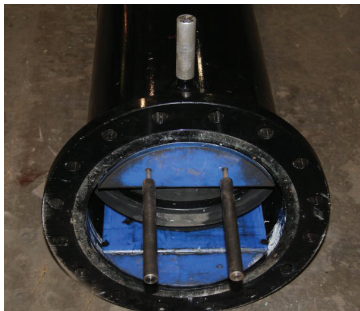

Figure G-10
**G.19)** Visually check to ensure proper valve cartridge orientation — the gate is to be perpendicular to the alignment port before continuing (see Figure G-10). Remove the gate housing extensions.